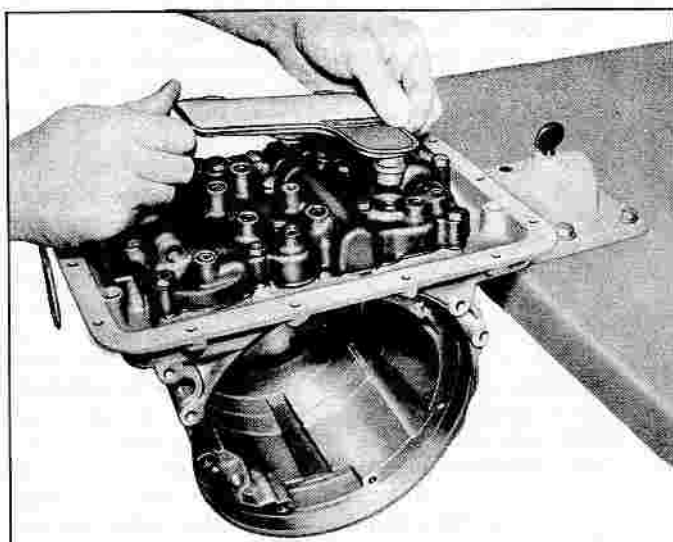

Fig. 7E-16—Installing Valve Body Screen
9. Remove the clutch drum (fig. 7E-23).